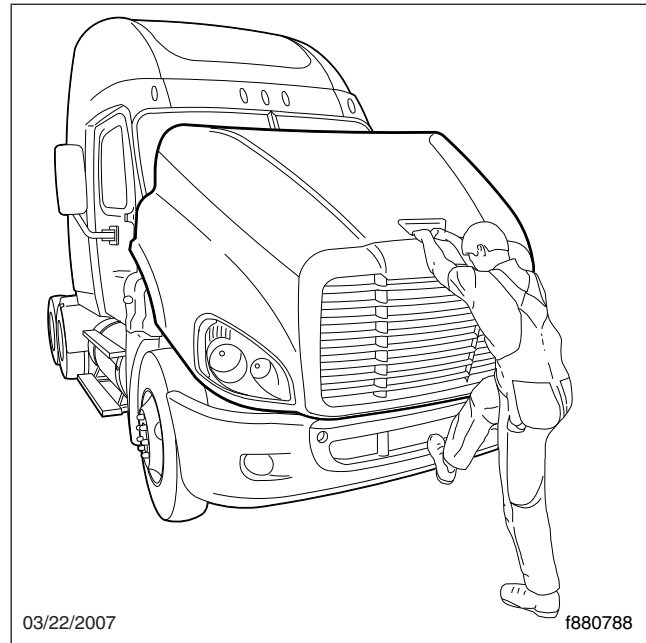

Fig. 2.8, Hood Tilting
3. Using the bumper step and grab handle, slowly tilt the hood until the straps support it. See Fig. 2.8.